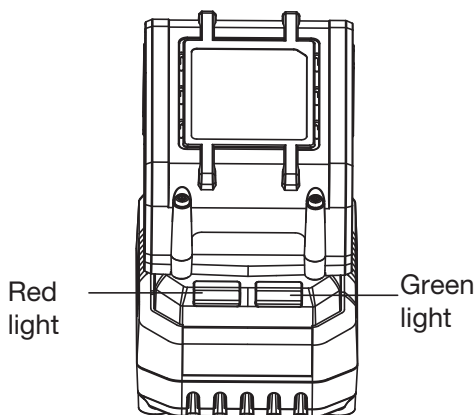

Figure 4
4. CHARGING PROCEDURE (SEE FIG. 4)